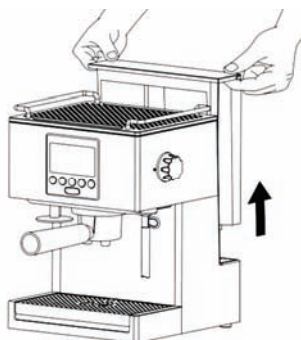

Fig. 1
**CAUTION!** Pour the water into the tank (1) only when the cord is unplugged from the socket. The valve at the bottom part of the tank prevents the water from leakage.
- Remove the water tank (1) by pulling it upward (Fig. 1).